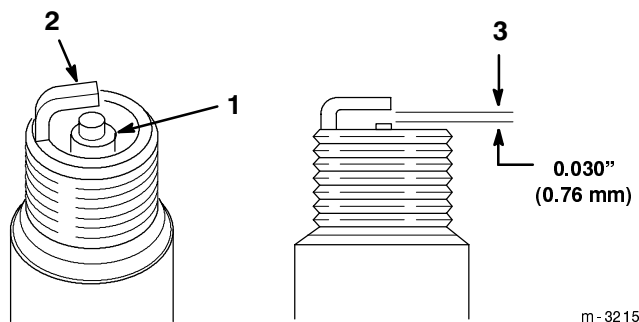

Figure 29
1. Look at the center of the spark plug(s) (Fig. 29). If you see light brown or gray on the insulator, the engine is operating properly. A black coating on the insulator usually means the air cleaner is dirty.
- Check the gap between the center and side electrodes (Fig. 29). Bend the side electrode (Fig. 29) if the gap is not correct.